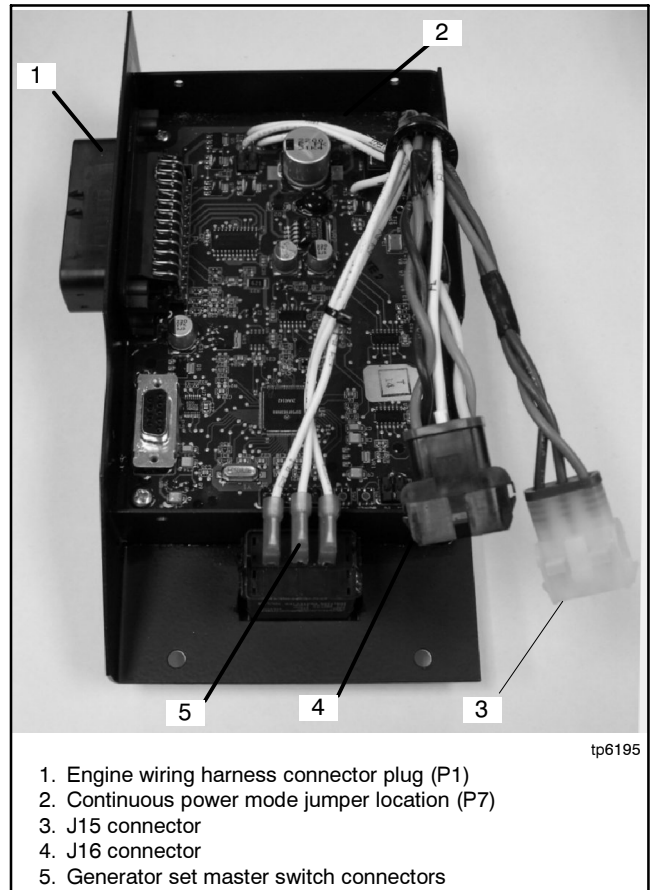

Figure 6-2 Advanced Digital Control Connections (Shown with Back Cover Removed)
- a. Disconnect the engine wiring harness connector P1 plug (35-pin) from the controller. Disconnect the J15 and J16 connectors. See Figure 6-2.
- a. Note the labels on the three leads connected to the generator set master switch for reconnection later. Disconnect the leads at the pink connectors. See Figure 6-2.
- b. Remove the cover screws and remove the controller's back cover. See Figure 6-2.
4. Locate the P7 connector near the top of the controller. See Figure 6-2. Remove the jumper from pins 1 and 2 of the P7 connector. If the P7 connector has three pins, connect the jumper across pins 2 and 3 for storage.